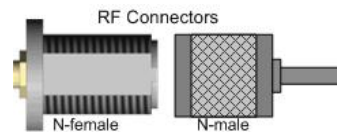

Figure 4
The Channelized is supplied with an N-female (see Figure 4) connector on all the main port(s). Between the “RF Splitter”, “TCC Cluster” and “ RF Combiner” the RF connections are “SMA-female” It is recommended that a 3 ft jumper cable is used in a (S) shape as a strain relief to connect the main TX and RX ports to the coaxial cable going into the “Non Fiber-Span equipment”. This will avoid the likelihood of the RF port to strip. See figure 8 for connector types, make sure the RF cable connector is aligned with the unit port when threading. Soft jaw connector pliers are commonly used when tightening the RF cable connector.